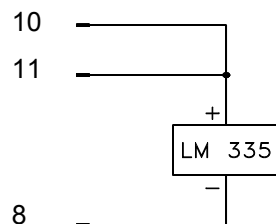

Figure 7 Connecting a temperature sensor LM 135 or LM 335
Additionally to the AD 590 or AD592 temperature sensor the TED200C also works with an LM 335 sensor. If an LM 335 is used as temperature sensor also select "AD 590" with the key (25). The LED "AD 590" (19) lights up. The LM 335 sensor must be connected according to Figure 7.